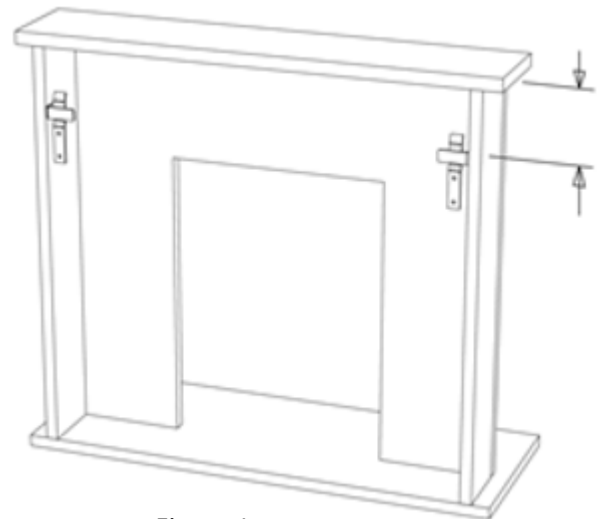

Figure 1
2. Screw the 2 mantel brackets (B) to the inside of each leg using the 4 screws provided (D - 16mm), making sure that the brackets are flush with the rear of the leg. See Figure 1 & 2.